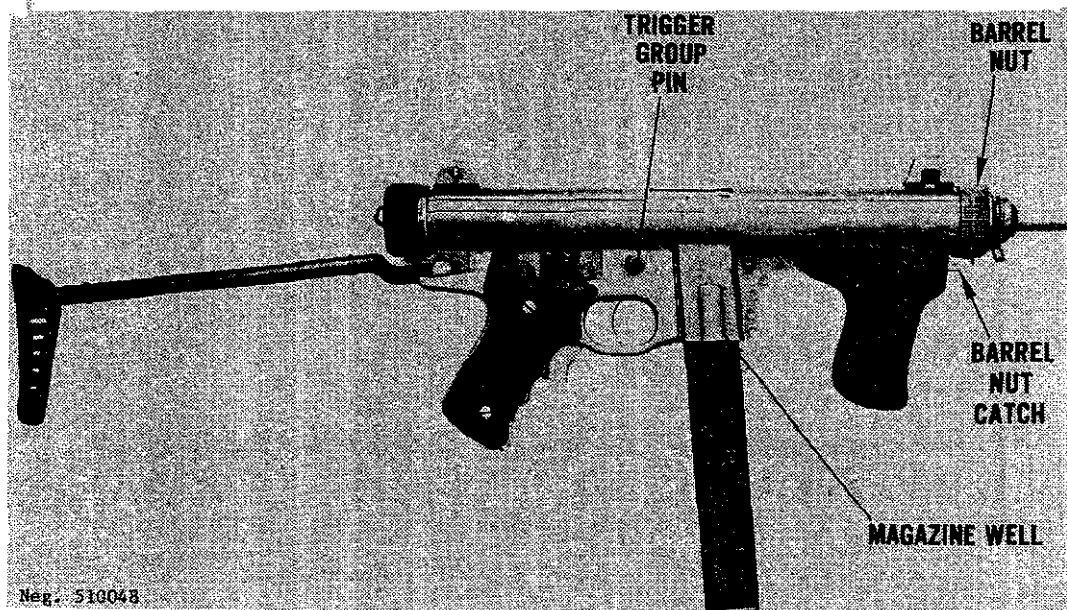
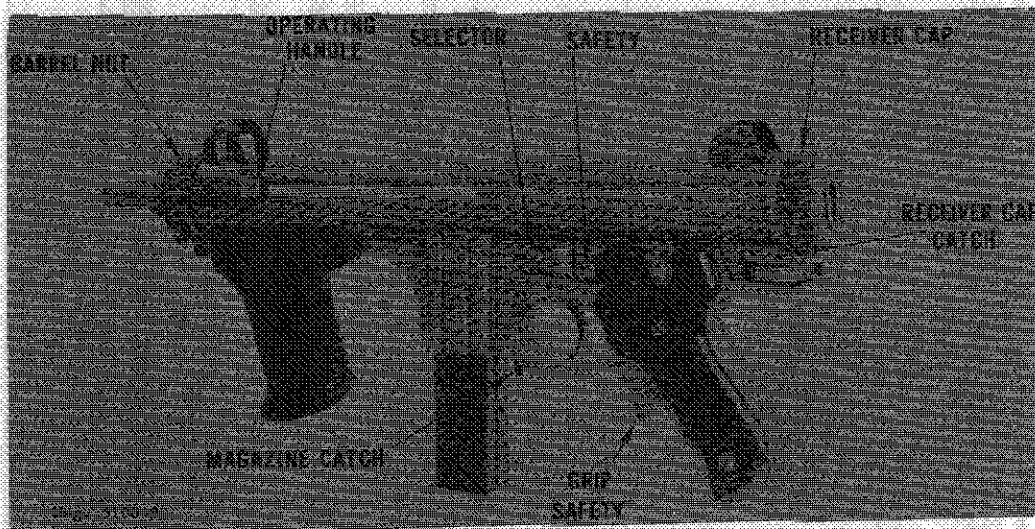

Figure 49. Italian Beretta Model 12 submachinegun (early model).
Figure 50. Beretta Model 12 submachinegun, stock folded, (late model).
a. The 9-mm Beretta M12 submachinegun (fig 49) is a modern-design gun produced in Italy. It is a standard weapon in the Italian Army and is offered for commercial sale to other countries. A copy of this gun is also produced in Indonesia.
b. The M12 is a blowback-operated, selective-fire weapon fed from 20- or 40-round capacity box magazines. The bolt of this gun extends forward over most of the barrel, thus allowing use of a long barrel in a fairly short and compact weapon. The Beretta M12 is easily recognized by its double-hand grips, large wedge-shaped operating handle, and grip safety in front of the rear grip (fig 50). The M12 is usually found with a folding metal stock, but a conventional, fixed wood stock is also available.
c. Insert a loaded magazine into the magazine well (fig 49) until the magazine catch snaps into place. Press the safety button (fig 50) to the left, squeeze the grip safety, and pull the operating handle (fig 50) fully rearward, then ease it forward until it is caught by the sear. CAUTION: The weapon is now ready to fire.
d. If the weapon is not to be fired immediately, place it on safe by pressing the safety button in the top center of the rear grip (fig 50) to the right. Upon release of the rear grip, the grip safety (fig 50) will automatically move to the safe position.
e. To fire, select the mode of fire by pressing the selector (above the trigger) (fig 50) to the right for semiautomatic fire and to the left for automatic fire. Press the safety button (fig 50) to the right, and squeeze the grip safety (fig 50). Aim (using a normal sight picture) and press the trigger. If the selector has been set for semiautomatic, the gun will fire one shot, after which the trigger must be released and repressed to fire a second shot. If the selector has been set for automatic, the gun will fire continually until the trigger is released or the magazine is empty. The bolt will remain open between shots but will close on an empty chamber when the last round in the magazine is fired.
f. To clear the gun, press the magazine catch (fig 50) and withdraw the magazine. If necessary, pull the operating handle fully to the rear and ease it forward until it is caught. Inspect through the ejection port to insure that no cartridges are present. Hold the operating handle, squeeze the grip safety and trigger (fig 50), and ease the operating handle forward. Push the safety button to the left (safe) and insert the magazine.
b. Depress the barrel nut catch (fig 49) and unscrew the barrel nut. Pull the barrel nut, barrel, and bolt forward out of the receiver. Twist the barrel nut until it aligns with its grooves in the barrel and can be removed. Pull the barrel upward, then rearward, to remove it from the bolt.